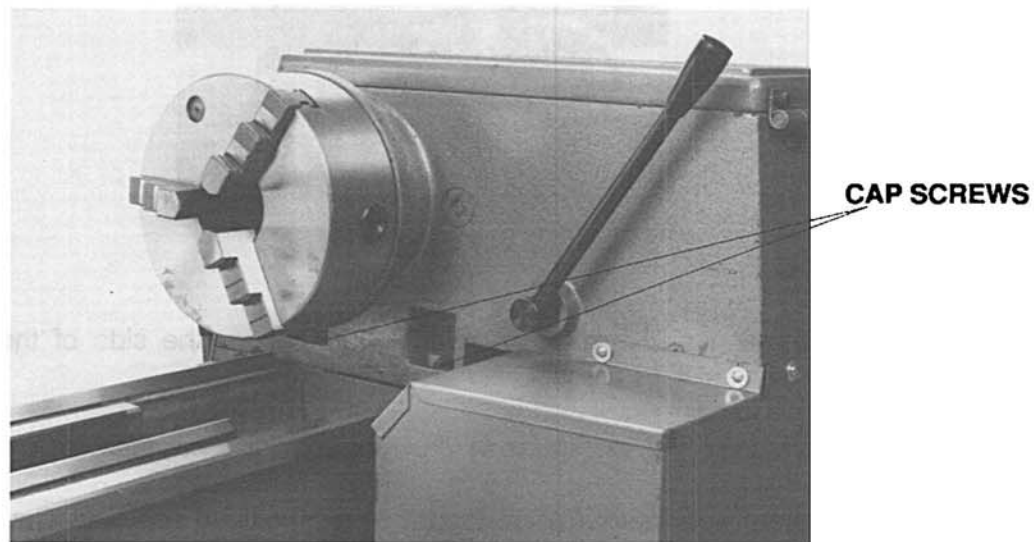

Figure 3
4. At the end of Section IX.B, you loosened two cap screws (of four) that hold the headstock assembly to the bed. The other two screws, visible in Figure 3, may also be loosened now.